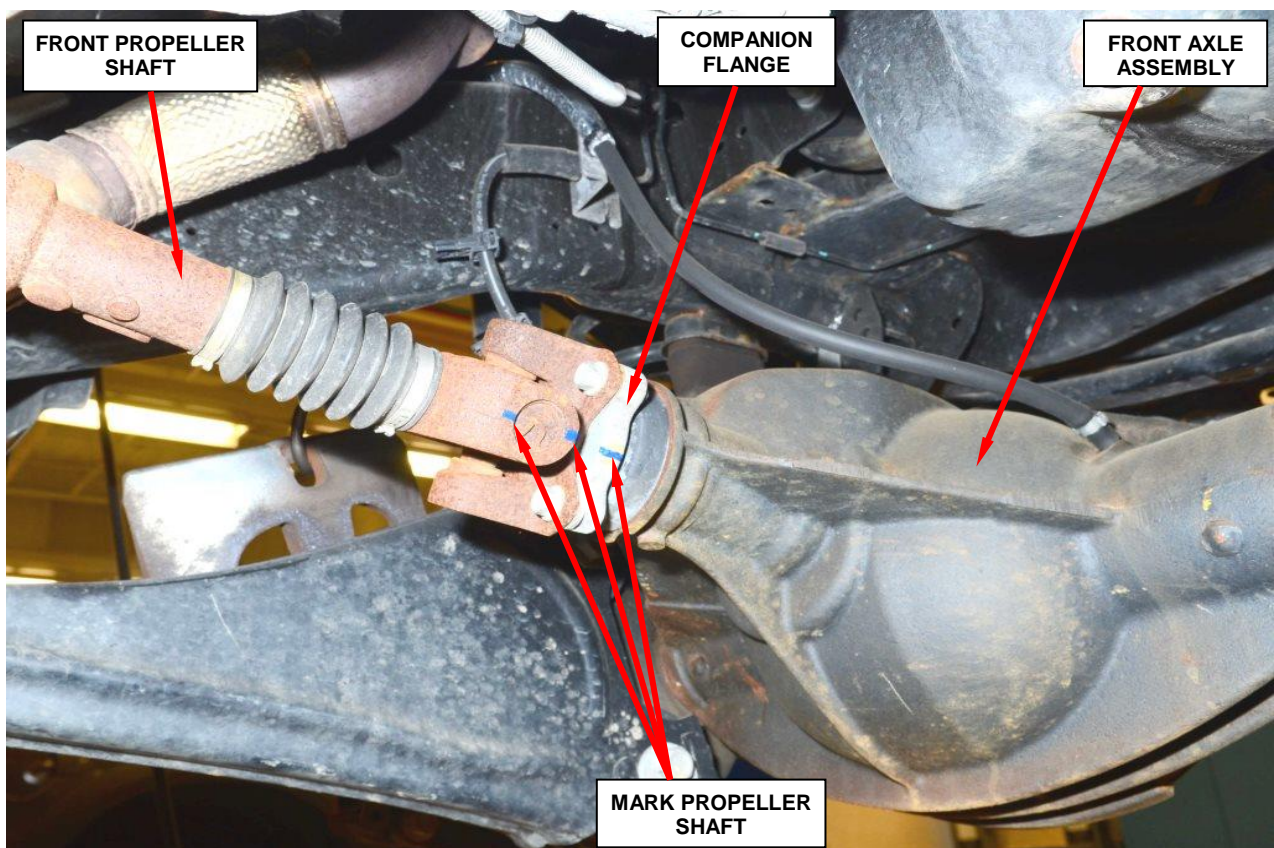

Figure 9 – Mark Front Propeller Shaft
11. **For vehicles equipped with four wheel drive**, mark and then disconnect the front propeller shaft from the front axle companion flange (Figure 9).